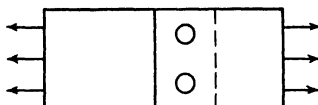

Fig. 321.—Two $\frac{1}{16}$ -in. S.A.E. X-4130 rivets.
91. What is the strength in shear of the lap joint shown in Fig. 321?